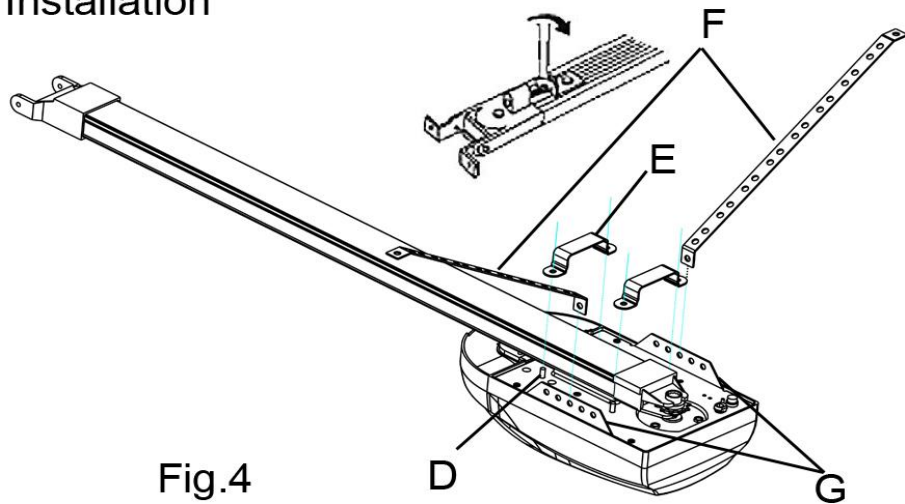
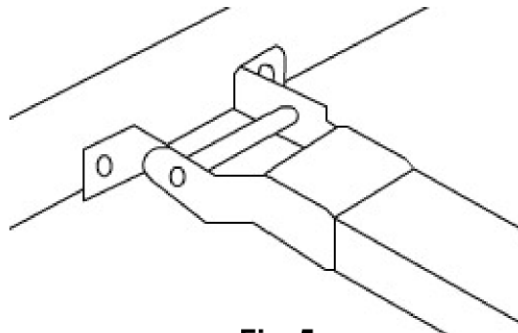
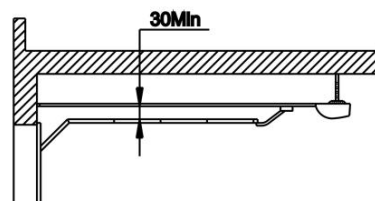
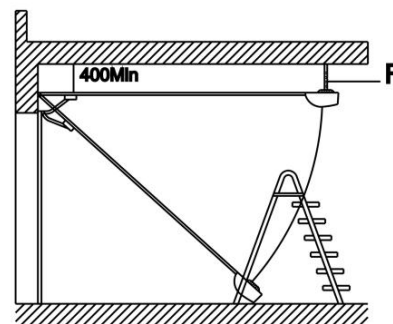

Fig. 4
Fig. 5
Fig. 6
Fig. 7
Before attaching the motor brackets (E) (FIG 4) screw an inverted nut (6mm) (D) on each stud then position the brackets (E) on the studs and secure them in-place using a second 6mm-nut and then lock the brackets to the rail by tightening the inverted lock nuts (D). Connect the opener edge (G) to the doorframe or to the ceiling iron angle (F) (Fig.5), maintaining a minimum gap of 30mm from the top panel's maximum height (Fig. 6). Check measurements for drilling insert and lock the brackets F and fix the opener to the ceiling with the correct fixings (Fig. 7). Cut off any hanging brackets excess.
4. Assembly header sleeve (Fig. 4)